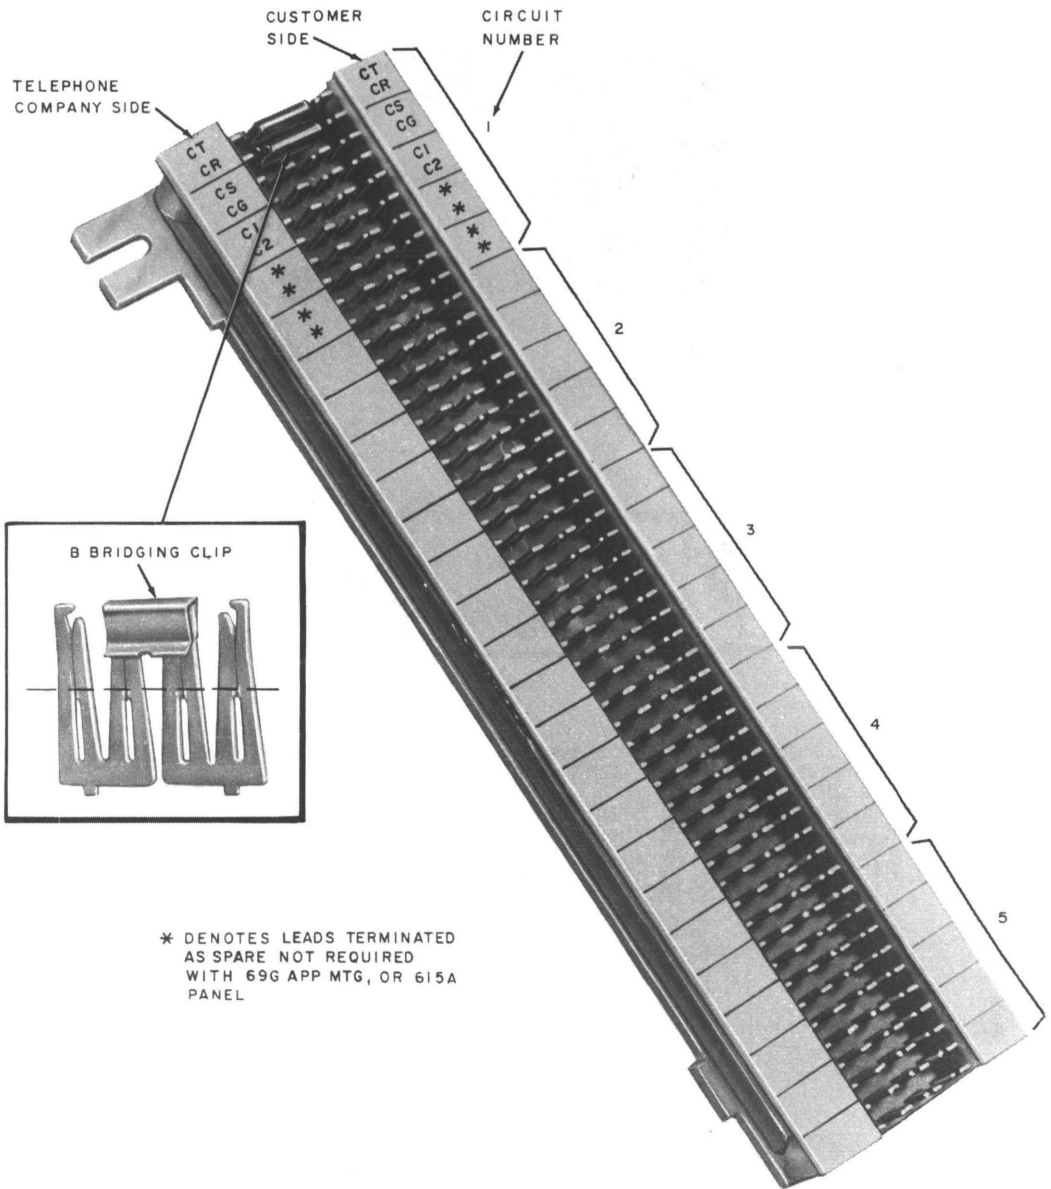

Fig. 3—66M1-50 Interface Connecting Block
- Block, Connecting, 66M1-50 (as required, Fig. 3)
- Clip, Bridging, B (as required, shipped 25 per package, Fig. 3)
**3.02** Extend the CT, CR, CS, CG, C1, C2, and CA (if provided) leads from the 66B4-25 intermediate connecting block to the 66M1-50 interface connecting block for access to the CPE. Stencil lead designations on the interface connecting block as shown in Fig. 3.
**3.07** Terminate the raw end of connector cable No. 1 on a 66B4-25 connecting block for the CO lines. Terminate the raw ends of connector cables 2, 3 and 4 on 66M1-50 interface connecting blocks at the customer end following the wiring plan shown in Fig. 7 and Tables B, C, D, and E. Insulate and store all spare conductors. Stencil lead designations on the interface connecting block as shown in Fig. 3.